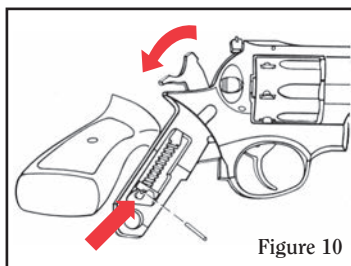

Figure 10
3. Cock the hammer. Insert an appropriately-sized pin (or similar instrument) about one half its length into the hole at the rear of the mainspring strut. (See Figure 10.)